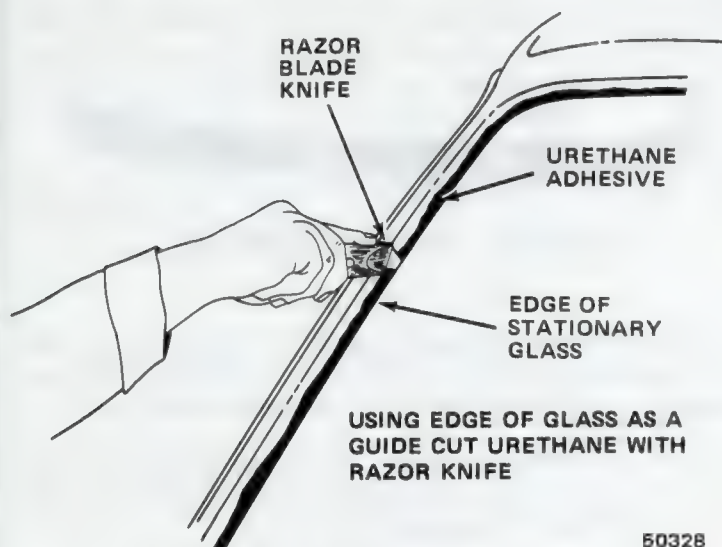

Fig. 3N-8 Cutting Urethane with Razor Blade Knife
(3) Make an initial cut around the edge of the glass with a razorblade-type knife (fig. 3N-8).